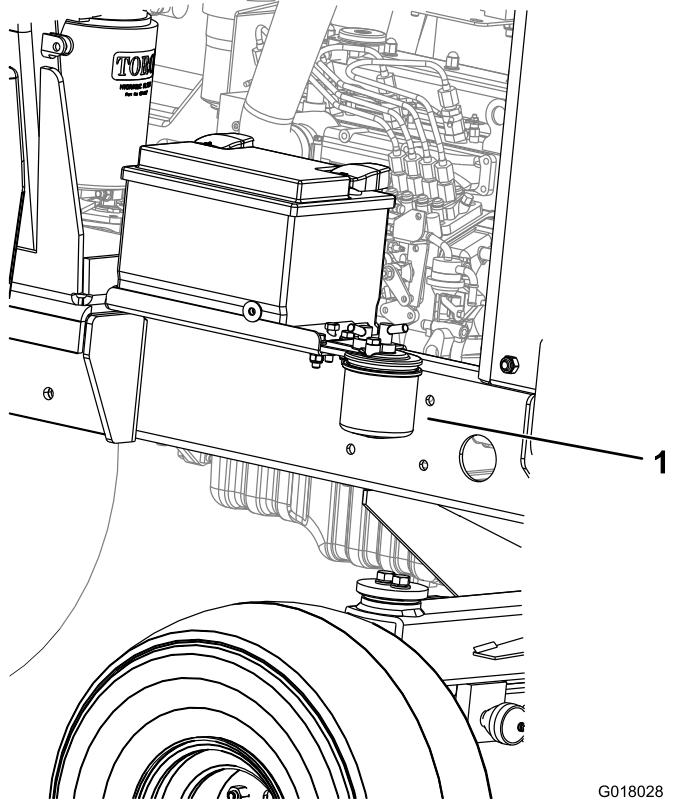

Figure 47
1. Place a clean container under the fuel filter canister (Figure 47).